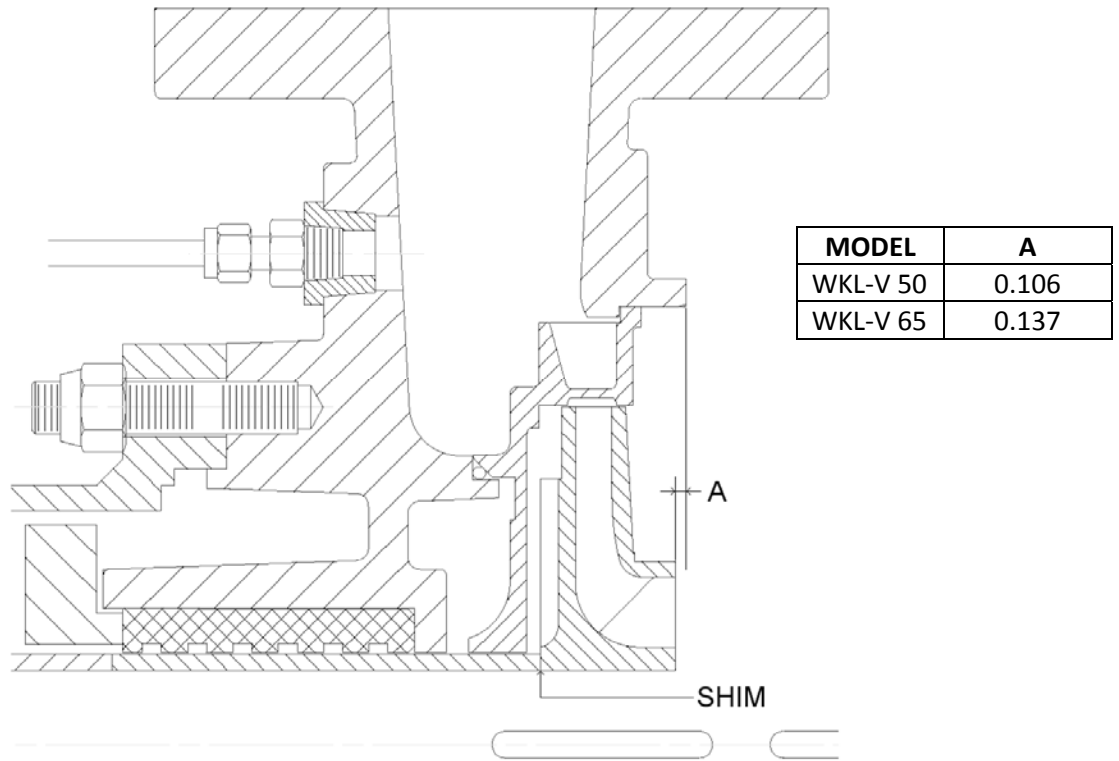

Figure 2. WKL-V-50 and WKL-V-65 Axial Alignment of Impeller
6. Remove capscrews (49) and lockwashers (50) from coupling guard (20). Remove coupling guard (20). Remove guard gasket (88) from coupling guard (20). Match mark coupling (22) halves to assure proper coupling reassembly. Disconnect coupling (22) halves.
7. Remove locknuts (48) from studs (47), freeing motor from motor bracket (6). Hoist motor and motor coupling (22) half away from pump and place on plywood or heavy cardboard.
8. Loosen connectors (55) and remove tubing (58).
9. Remove coupling half (22) from shaft (7). Remove coupling key (37).
10. Remove locknuts (46) from studs (45). Remove bearing cap (11) from studs (45) and from shaft (7). Remove gasket (73) from bearing cap (11).
11. Remove mechanical seal (90) from shaft (7).
12. Lubricate shaft (7) to facilitate installation of new mechanical seal (90). Install mechanical seal on shaft.
13. Install new gasket (73) on bearing cap (11). Secure bearing cap (11) to column (25). With new locknuts (46) on studs (45).
Refer to Figure 2. Measure the distance “A” from the outboard face of the interstage casing (5) to the outboard face of the impeller (10X) hub.